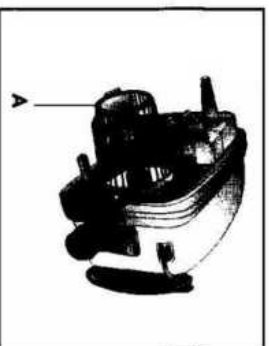

Fig. 24
- Empty the recovery tank (2).
- Activate the vacuum function using the vacuum button (19) and draw water through the accessories previously used for cleaning.
- Empty the recovery tank (2) and repeat the operation as necessary.
- Every time the bottom part of the appliance is cleaned, clean any solid residues off the outside of filter (A) (**Fig. 24**).